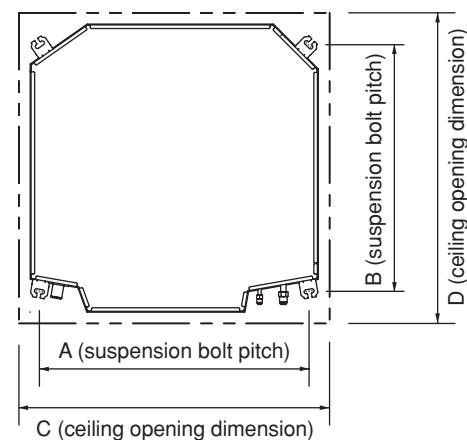

Fig. 3-49
(2) Follow Fig. 3-49 and Table 3-3 to make the holes in the ceiling.